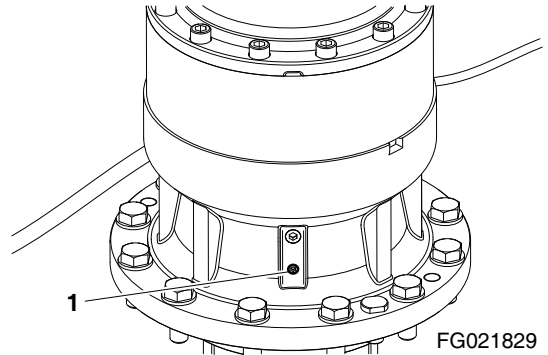

Figure 87
2. Remove air vent plug (1, Figure 87) from swing reduction device.
4. Install air vent plug (1, Figure 87) in swing reduction device.